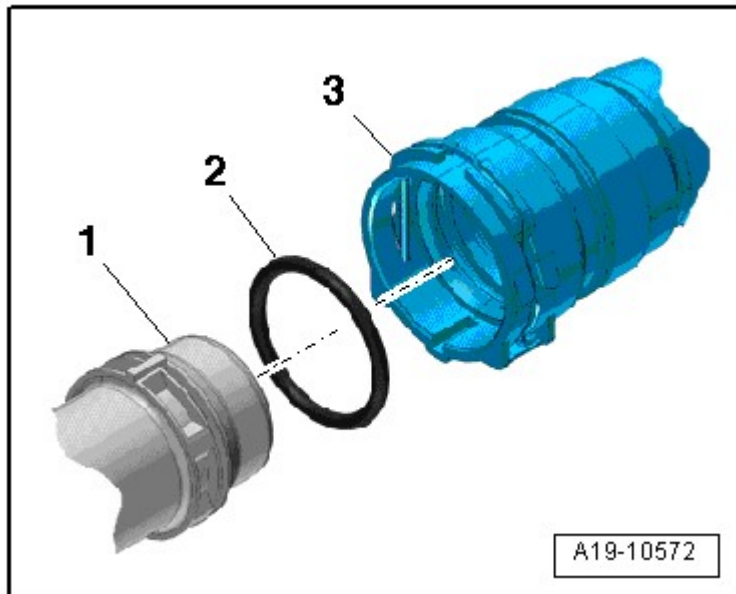

Fig. 113: Connecting Coolant Hose To Coupling
-- Connect the coolant hose to the coupling. Refer to **Fig. 113**.